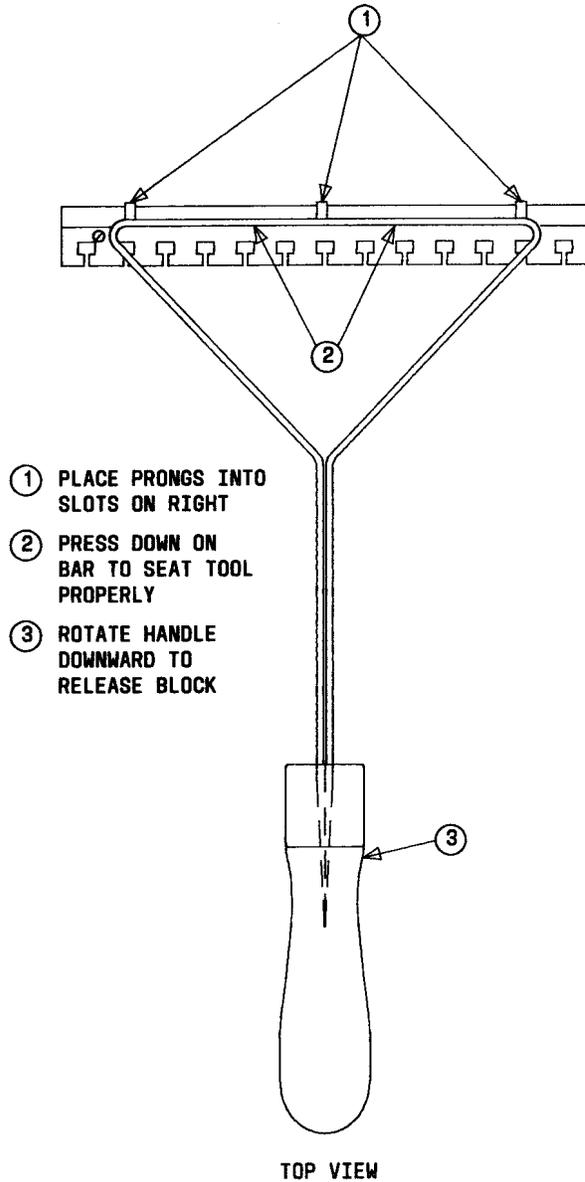

Fig. 5—Method of Removing Connecting Block
5.02 The connecting block must be removed from the wiring shelf. Use the KS-22616 tool (Fig. 5) and proceed as follows:
(2) Press down on bar, as shown in Fig. 5, until the three prongs of the tool are seated properly in the slots.
(3) The tool handle is offset in an upward direction. Rotate the handle downward until the three tangs on the fanning strip disengage from the wiring shelf.
(4) Lift the connecting block up slightly to disengage the bottom fanning strip, which is slotted lengthwise, from the track on the wiring shelf.